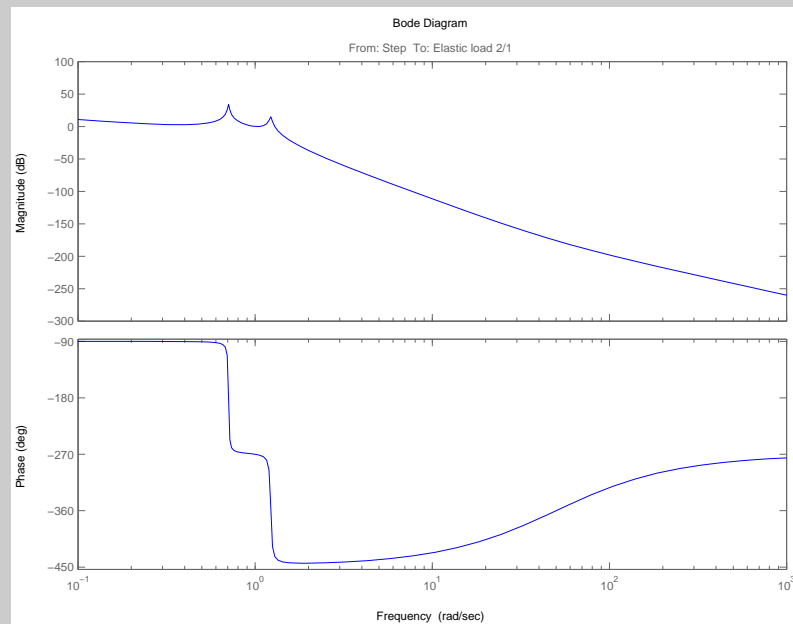

Figure 6: Bode plot from motor torque to load rotational speed, using linear(ized) model from Simulink.
**Solution:** The Bode plot is shown in Figure 6.
As can be seen, it is similar to the one in Figure 6.